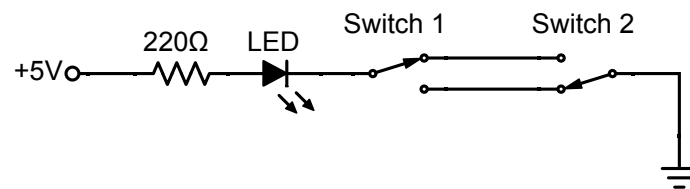

Figure 3 – A 3-way switch circuit allows the LED to be turned ON and OFF using either switch.
1. Sketch the circuit diagram shown in Figure 3 in your lab notebook.